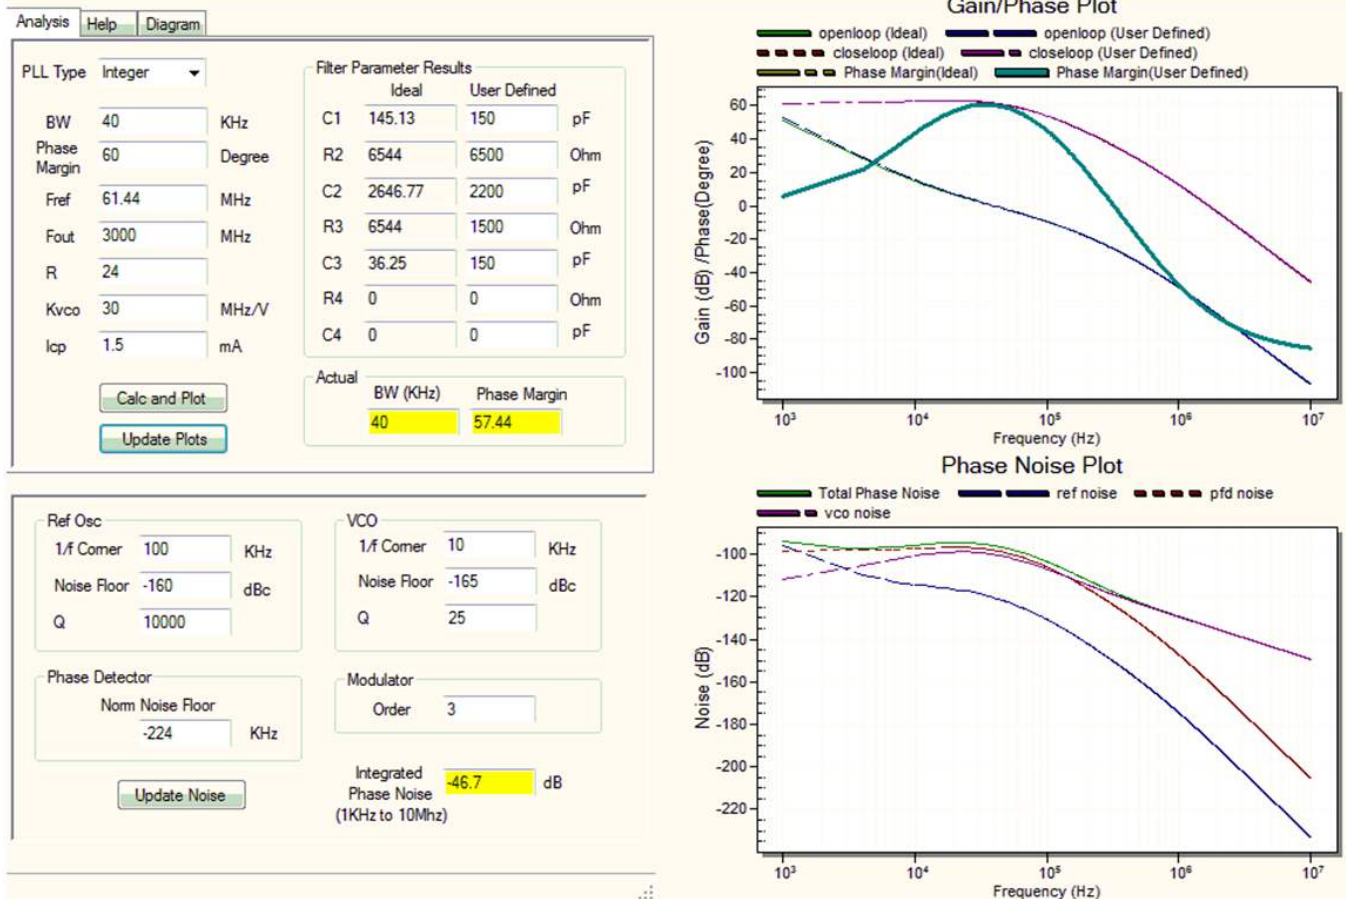

Figure 12. Integer Mode Loop Filter
3. Figure 12 shows the screen shot of a loop filter.